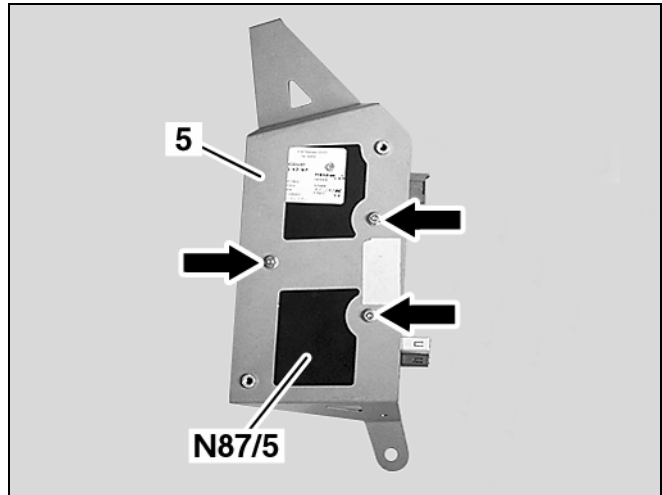

Figure 16
2. Mount the SDARS control module (N87/5, Figure 16) to the bracket (5, Figure 16) with three kit-included M5 x 8 hex nuts (Arrows, Figure 16).